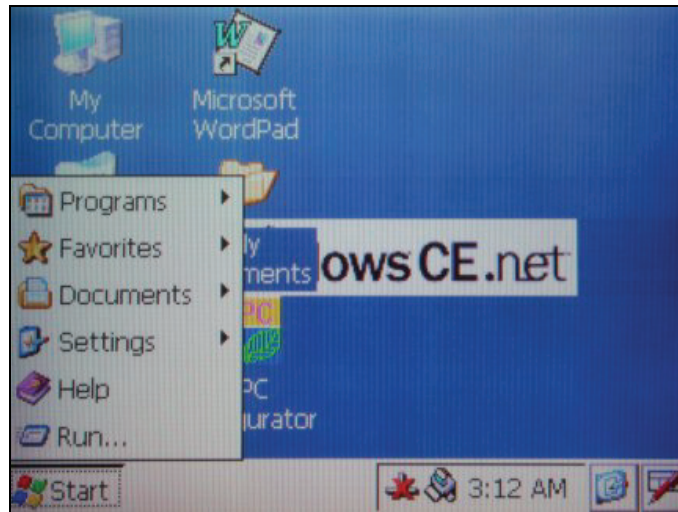

Figure 6-24
- Touch the bottom left corner of the front panel until the start menu pops up, as shown in Figure 6-24.